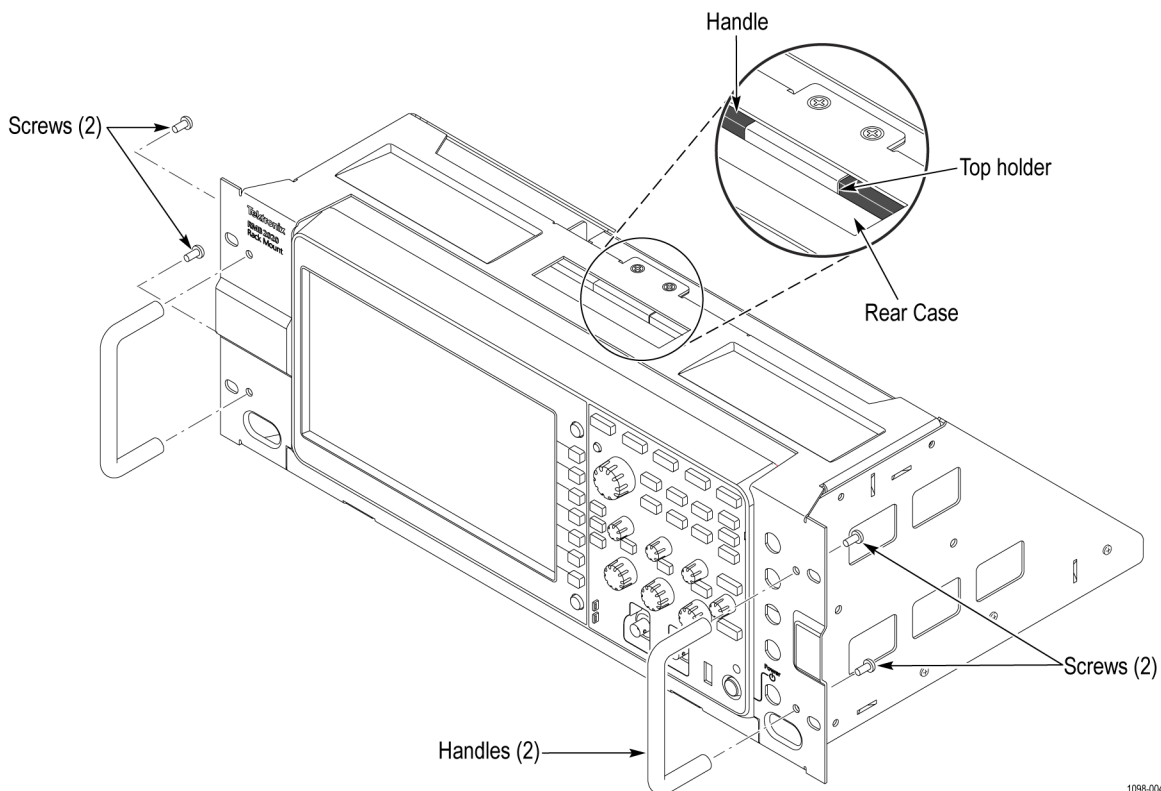

Figure 6: Installing rackmount handles
6. Make sure the vertical side of top holder inserts into the gap, which is formed by rear case and black rubber of handle. (See Figure 6.)
7. Attach the handles, using two of the pan head screws (210-1546-00) and split lock washers (210-1547-00) in each handle. Torque these screws to 16 in-lb. (See Figure 6.)